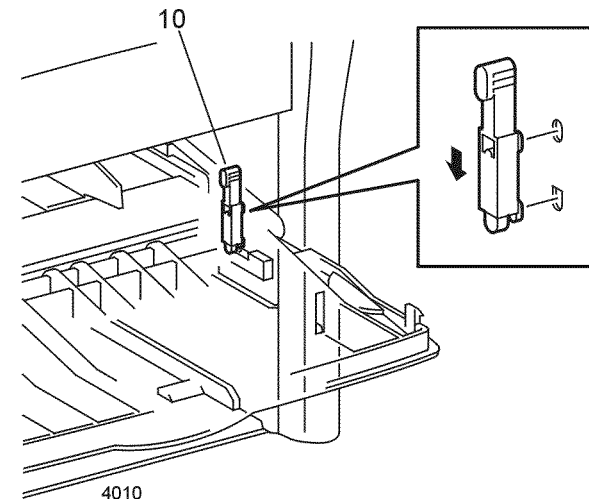

Figure 3 Right Tray Stop
9. Push down on the right tray stop, pull out to remove (Figure 3).